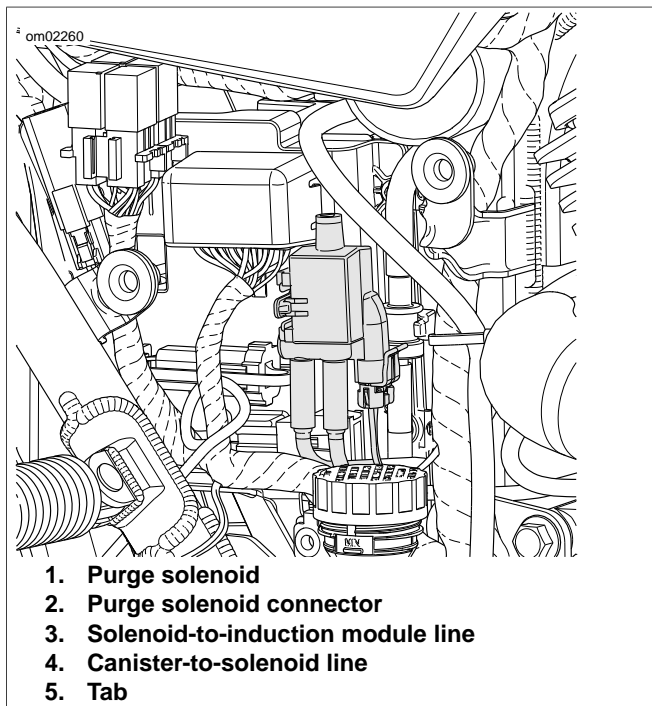
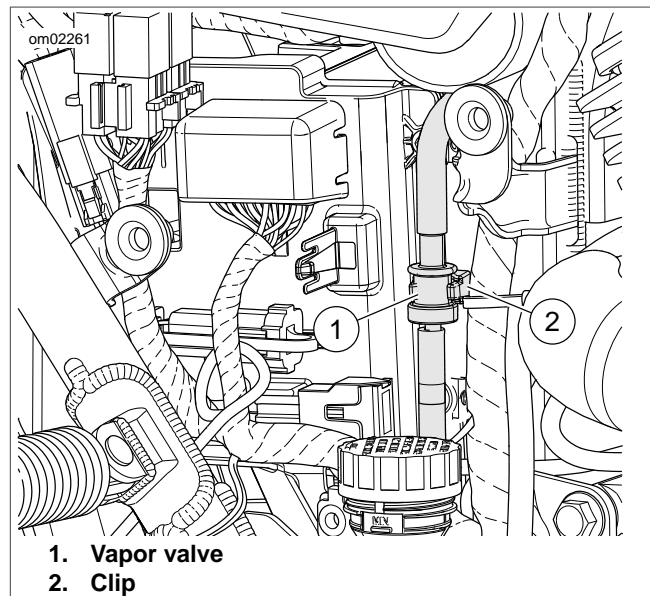

Figure 39. Purge Solenoid
Figure 40. Vapor Valve
4. **For California, Asia-Pacific, England, HDI and India models only:** See Figure 39. Remove purge solenoid.
- a. Disconnect purge solenoid connector (2).
- b. Remove solenoid-to-induction module and canister-to-solenoid lines (3 and 4) from purge solenoid (1).
5. See Figure 40. Pull vapor valve (1) from clip (2).
10. See Figure 40. Press vapor valve (1) into clip (2).
11. **For California, Asia-Pacific, England, HDI and India Models Only:** See Figure 39. Install purge solenoid.
- a. Install purge solenoid (1).
- c. Connect purge solenoid connector (2).